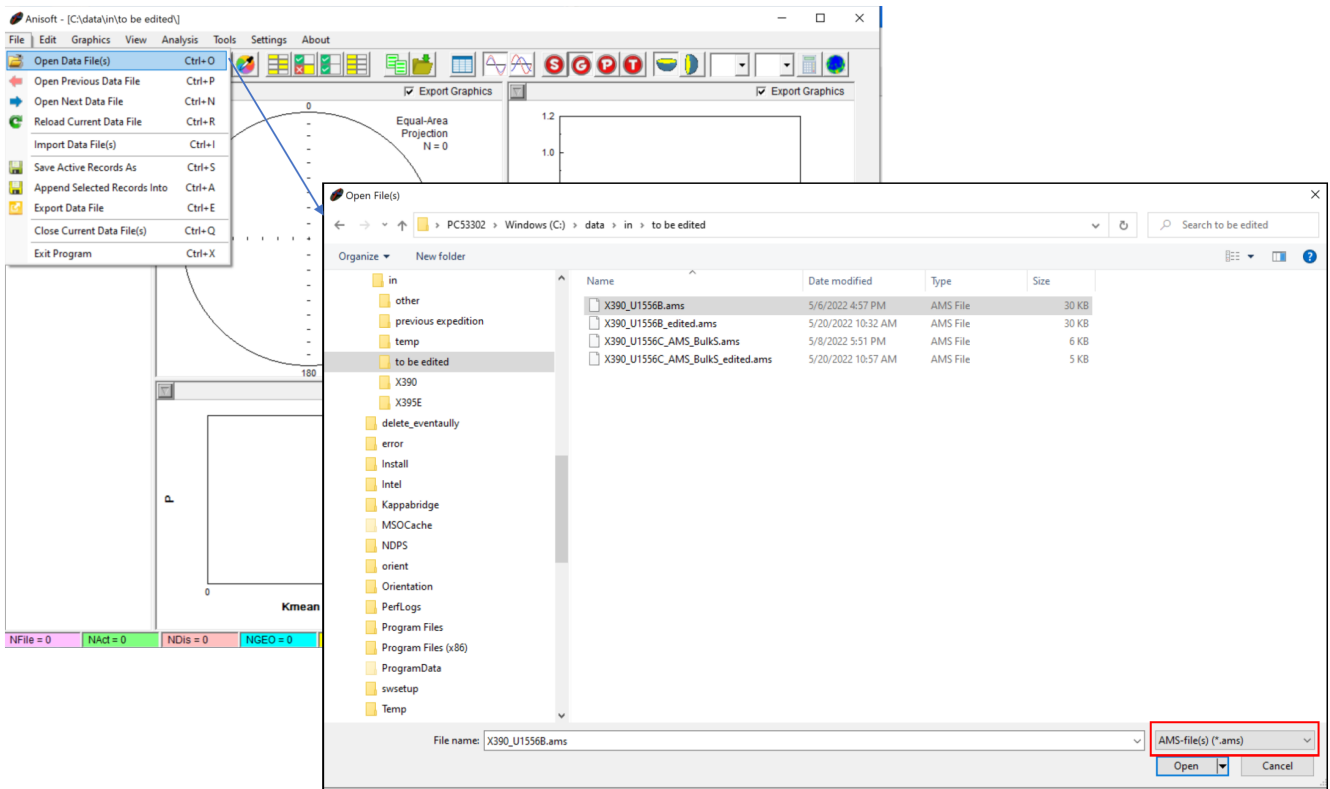

Figure 42: Open File(s) window of Anisoft5
2. Select **File>Open Data File(s)**. In the browser window, select the .ams file for the data to be uploaded and select **Open** (Figure 42).